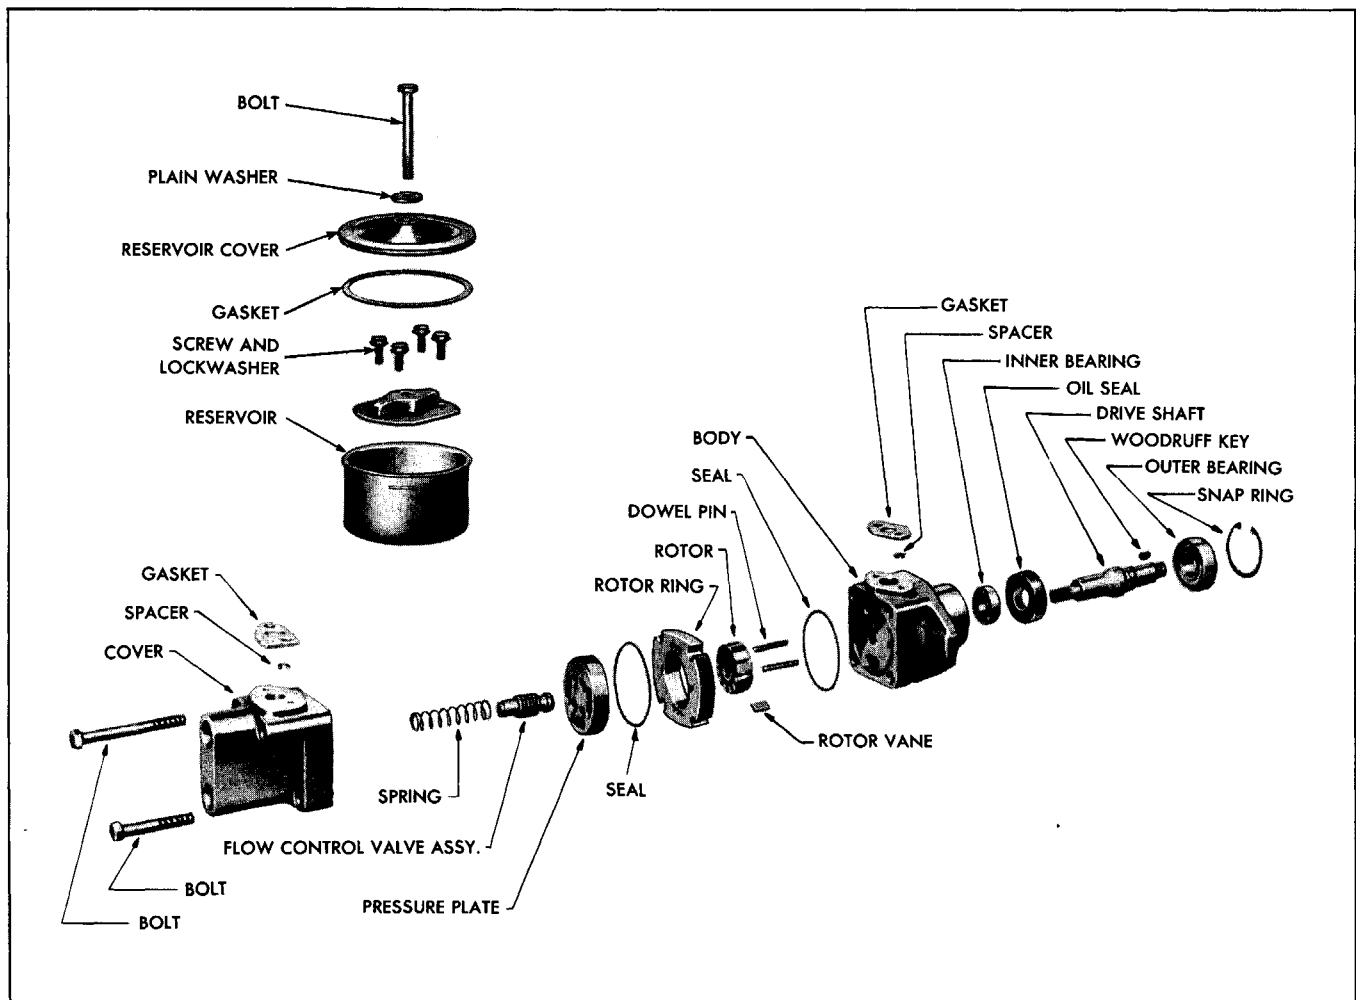

Fig. 9-50 Power Steering Pump—Exploded View
1. Remove reservoir body from pump body and cover (Fig. 9-50). Use care not to lose spacers and reservoir to body and cover gaskets.
1. Install inner bearing (Fig. 9-50) in pump body by tapping lightly on bearing outer race.